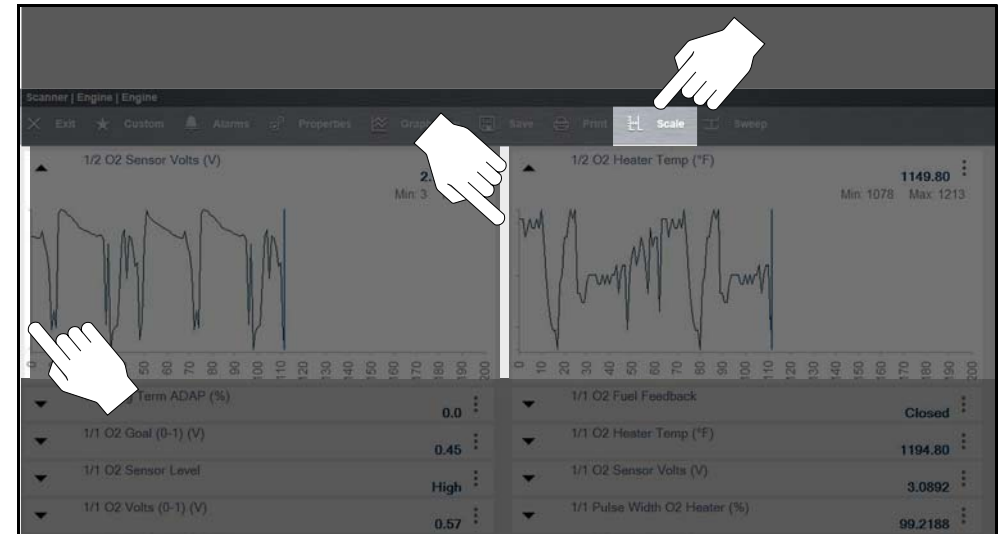

Figure 5-52 Scale values (shown OFF)
**Scale** allows you to display/hide the graph scale values along the left side of the graphs (Figure 5-52).